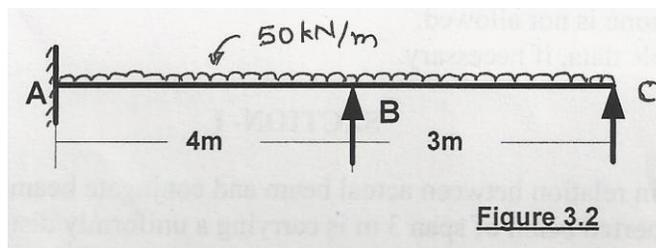

Figure 3.2
b) Analyze the beam loaded and supported as shown in Figure 3.2 if the support 'B' sinks by 5mm. Assume EI constant. Take $E=200\text{GPa}$, $I=332 \times 10^6 \text{ mm}^4$. Use Three Moment Theorem. (8)